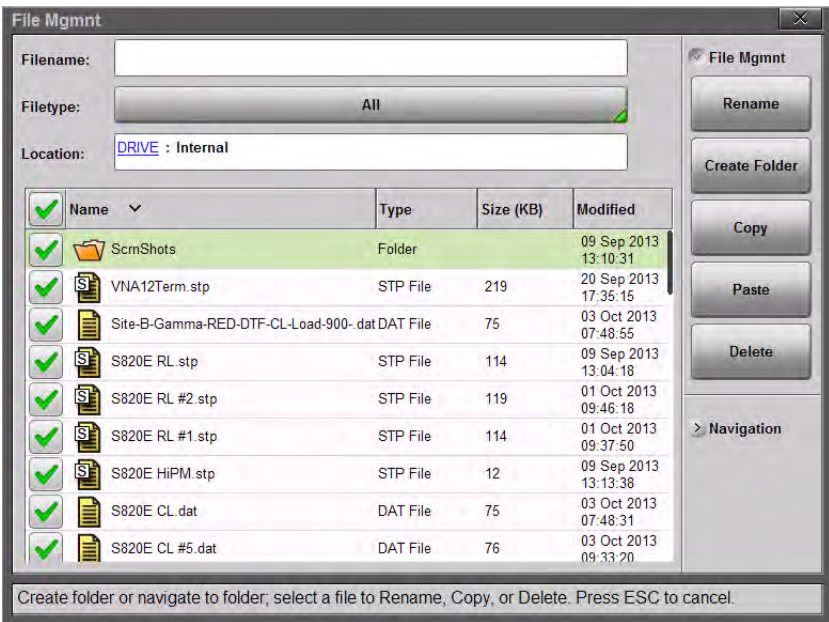

Figure 10-19. Selecting Multiple Items to Delete
2. Select the files and folders to delete. If desired, use the check box column header to select all of the files in the current location or folder (Figure 10-19). Use the Navigation submenu buttons as needed to move through a long list of files.